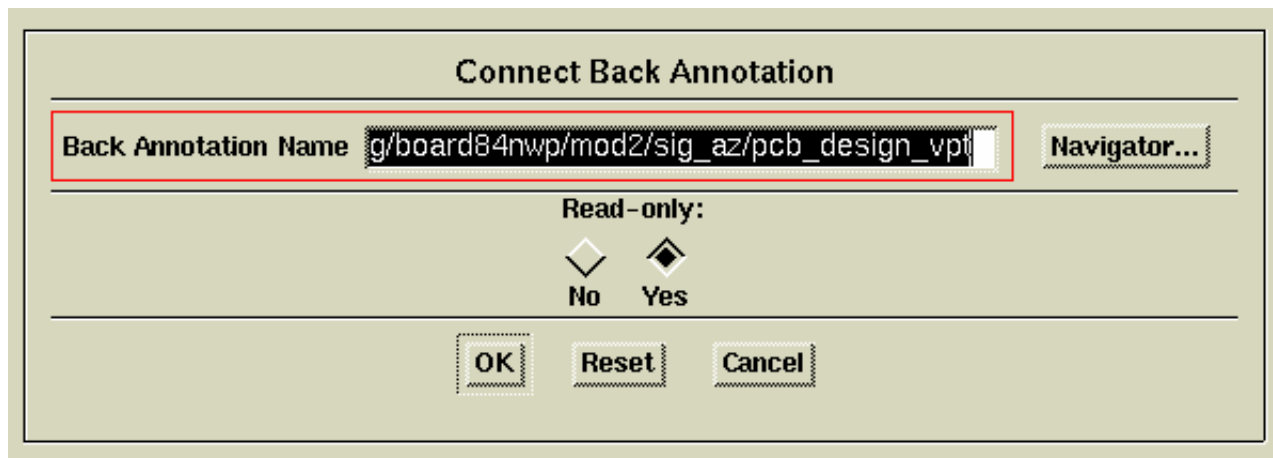

Figure 3-36. Connect Back Annotation Dialog Box
3. **OK** the Navigator; the pathname is automatically entered in the dialog box, shown in Figure 3-36. Click on **Read-only: Yes**, then **OK** the dialog box.